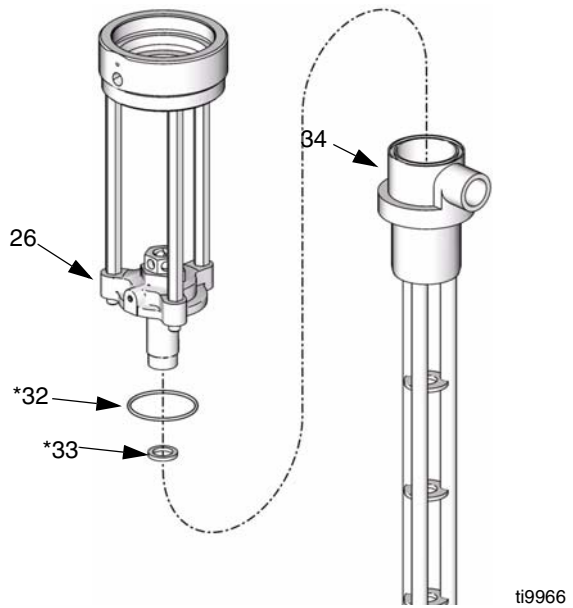

FIG. 22
11. Unscrew mounting flange (26) from pump body (34). Remove o-ring (32\*) and PTFE gasket (33\*) from
pump body (34). Inspect all parts for damage. See FIG. 22.